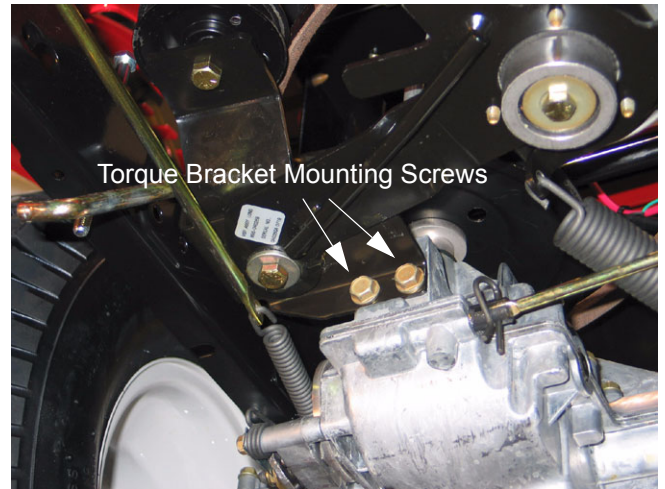

Figure 42
- 10.4. Using a 1/2" socket, remove the two screws securing the torque bracket to the transmission. See Figure 42.